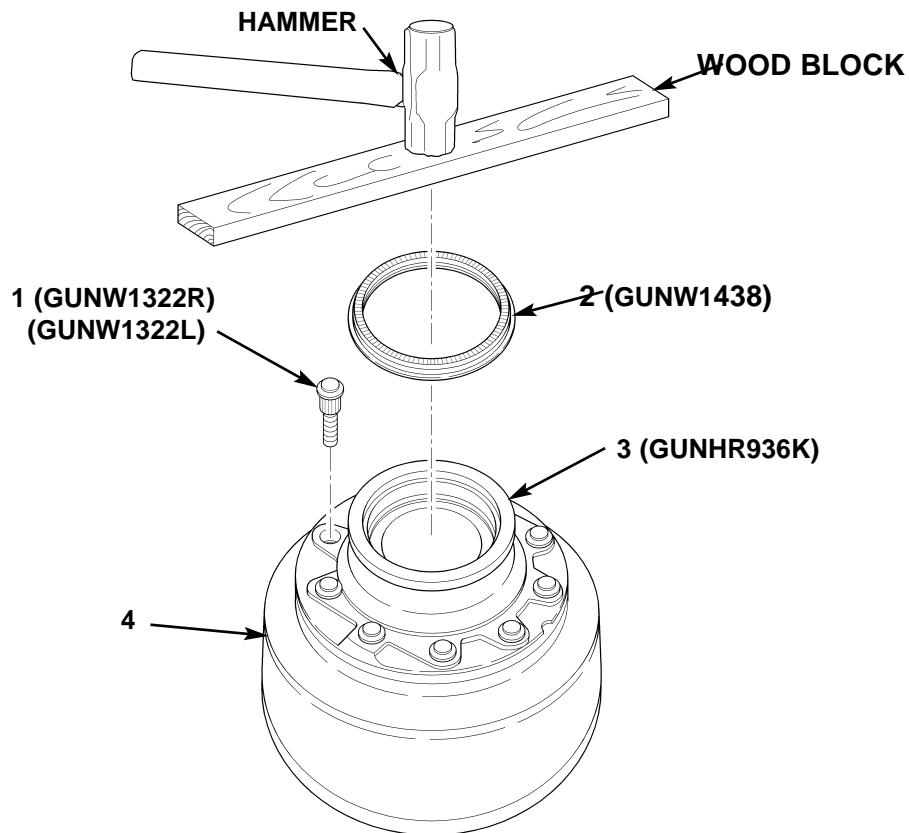

Figure 14. Installing Wheel Studs and Rear Tone Ring.
16. Position new rear hub (figure 14, item 3) facing down on rear brake drum (figure 14, item 4) with wheel stud holes aligned.
17. Install 10 new right-hand threaded studs (figure 14, item 1) on rear hub (figure 14, item 3).
19. Using block of wood and hammer, drive rear tone ring (figure 14, item 2) on rear hub (figure 14, item 3) until seated.